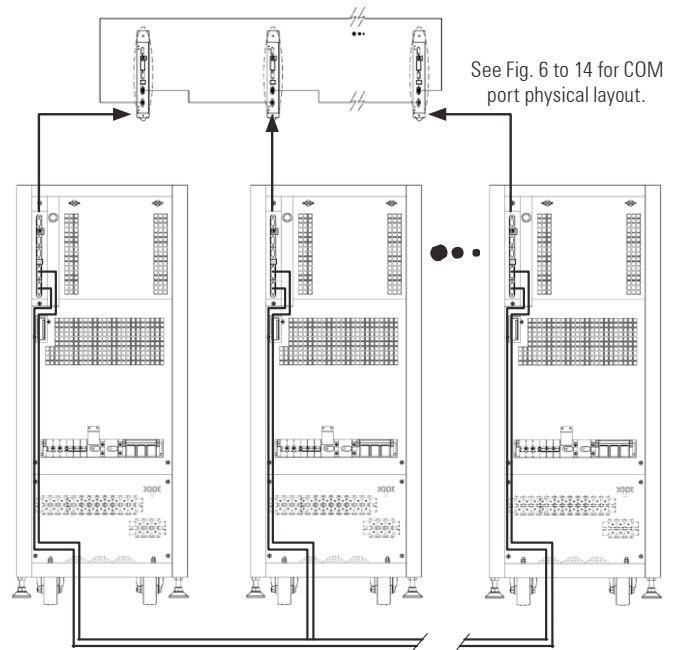

Fig. 37. Connection of the communication BUS.
- As an example, Fig. 37 shows, how the communication BUS connections have to be done.